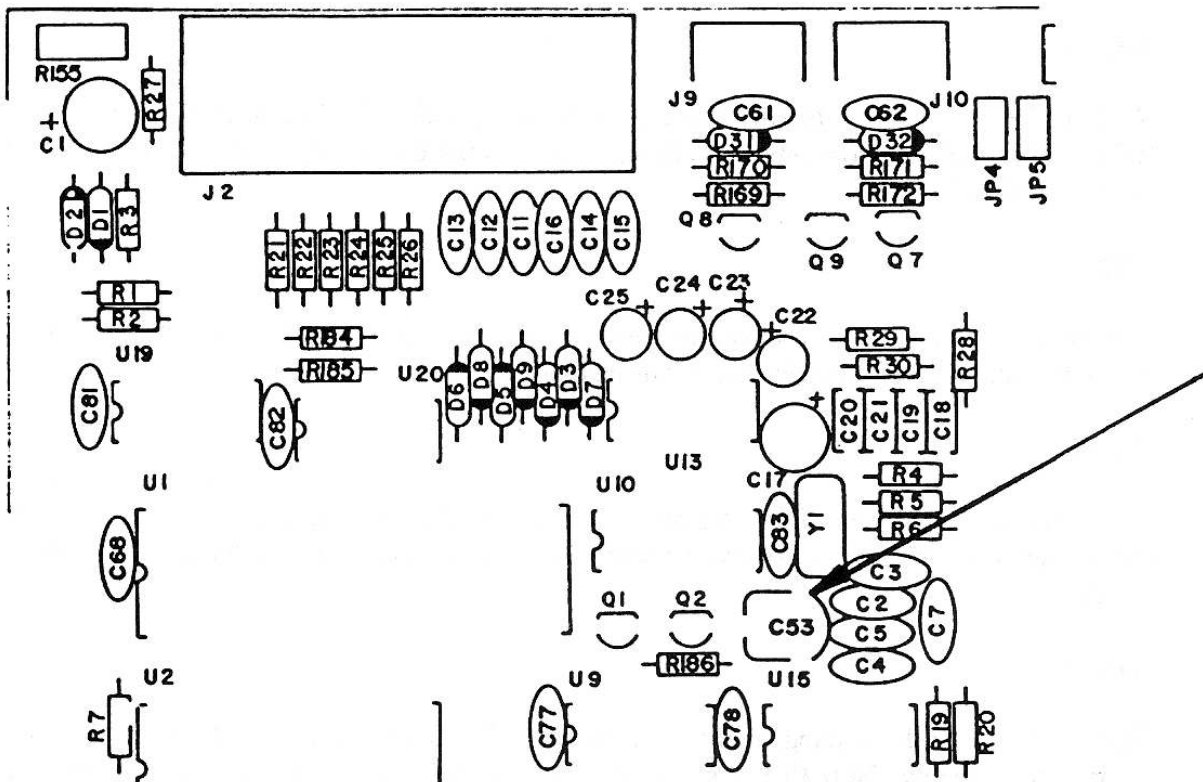

Figure 4: PK-232 circuit board layout showing the location of capacitor C53
4. With the help of Figure 4 below, locate the variable capacitor C53 in the left-rear quadrant of the PK-232 circuit board. It is the only variable capacitor on the circuit board and is immediately to the right of Q1 and Q2.
3. With the help of Figure 4 below, locate the variable capacitor C53 in the left-rear quadrant of the PK-232 circuit board. It is the only variable capacitor on the circuit board and is immediately to the right of Q1 and Q2.